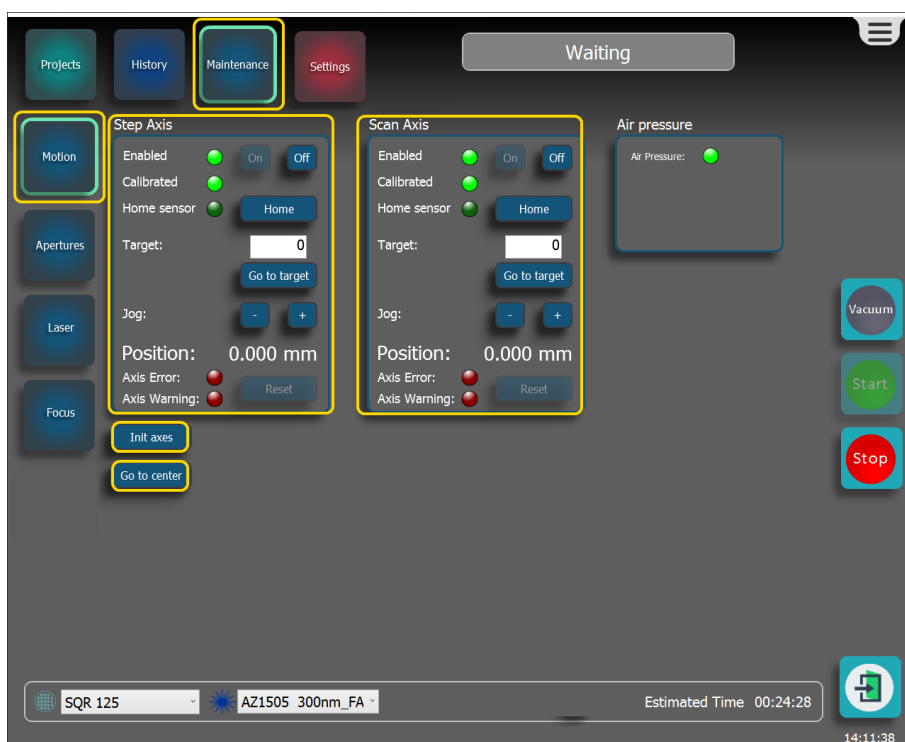

Figure 4-4 Basic motion control window
2. Select **Motion** in the side bar The Motion screen becomes visible, see **Figure 4-4 below**.